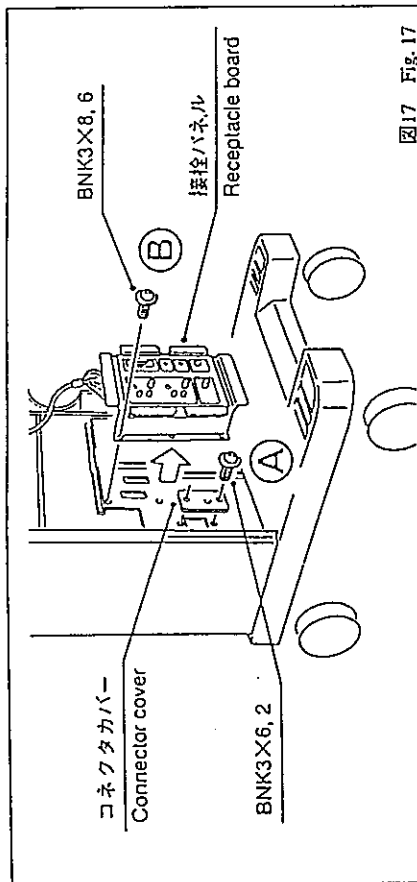
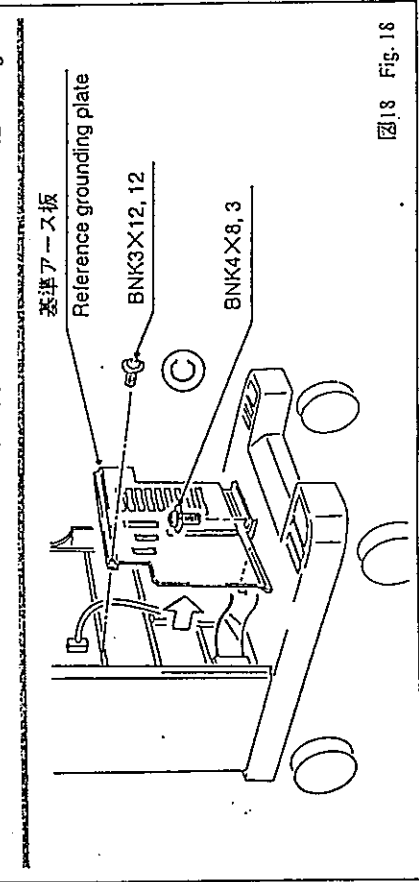

図17 Fig. 17
図18 Fig. 18
- ※ 本体のS/N ~9690040 の装置は、(7) の作業は不要。
- (7) 基準アース板のコネクタカバーを、ねじ2本を外して取り外す。(図17㉔)
- (8) 接続パネルをねじ6本を外し、まっすぐ手前に向けて取り外す。(図17㉔)
- (9) 基準アース板をねじ15本を外して取り外す。(図18㉔)
- ※ Operation (7) is not required for equipment bodies serially numbered up to 9690040.
- ※ Operations (8) and (9) are not required for equipment bodies serially numbered 9690041 and up.
- (7) Unfasten 2 screws and remove connector cover from reference grounding plate. (㉔ in Fig. 17)
- (8) Unfasten 6 screws and remove receptacle board by pulling it straight toward you.
- ※ Receptacle board, which has been connected to motherboard with plug receptacles on the back, should not fail to be pulled straight. (㉔ in Fig. 17)
- (9) Unfasten 15 screws, and remove reference grounding plate. (㉔ in Fig. 18)